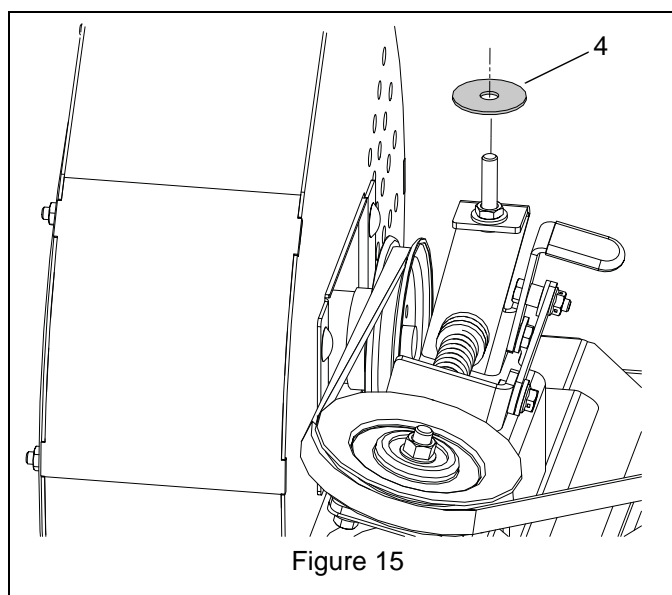

Figure 15
1. Install one 3/8 x 1 1/2" flat washer (item 4) on belt cover bolt on blower assembly. See Figure 15.